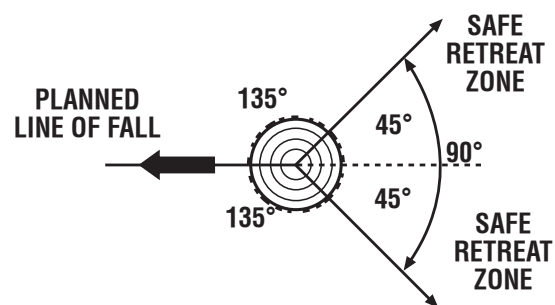

Fig. 12
See Figures 12 - 15.
- **Before any cuts are started**, pick your escape route (or routes in case the intended route is blocked); clear the immediate area around the tree and make sure there are no obstructions in your planned path of retreat. Clear path of safe retreat approximately 135° from planned line of fall. The retreat path should extend back and diagonally to the rear of the expected line of fall. *See Figure 12.*